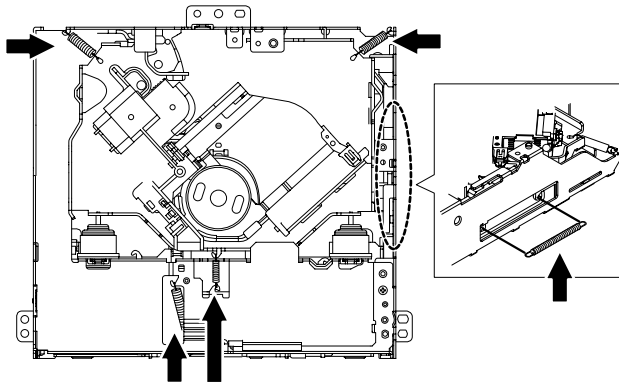

Fig.4
3.2.2 Removing the Traverse mechanism (See Fig.4, 5)
- (1) Remove the five springs from the traverse mechanism. (See Fig.4)